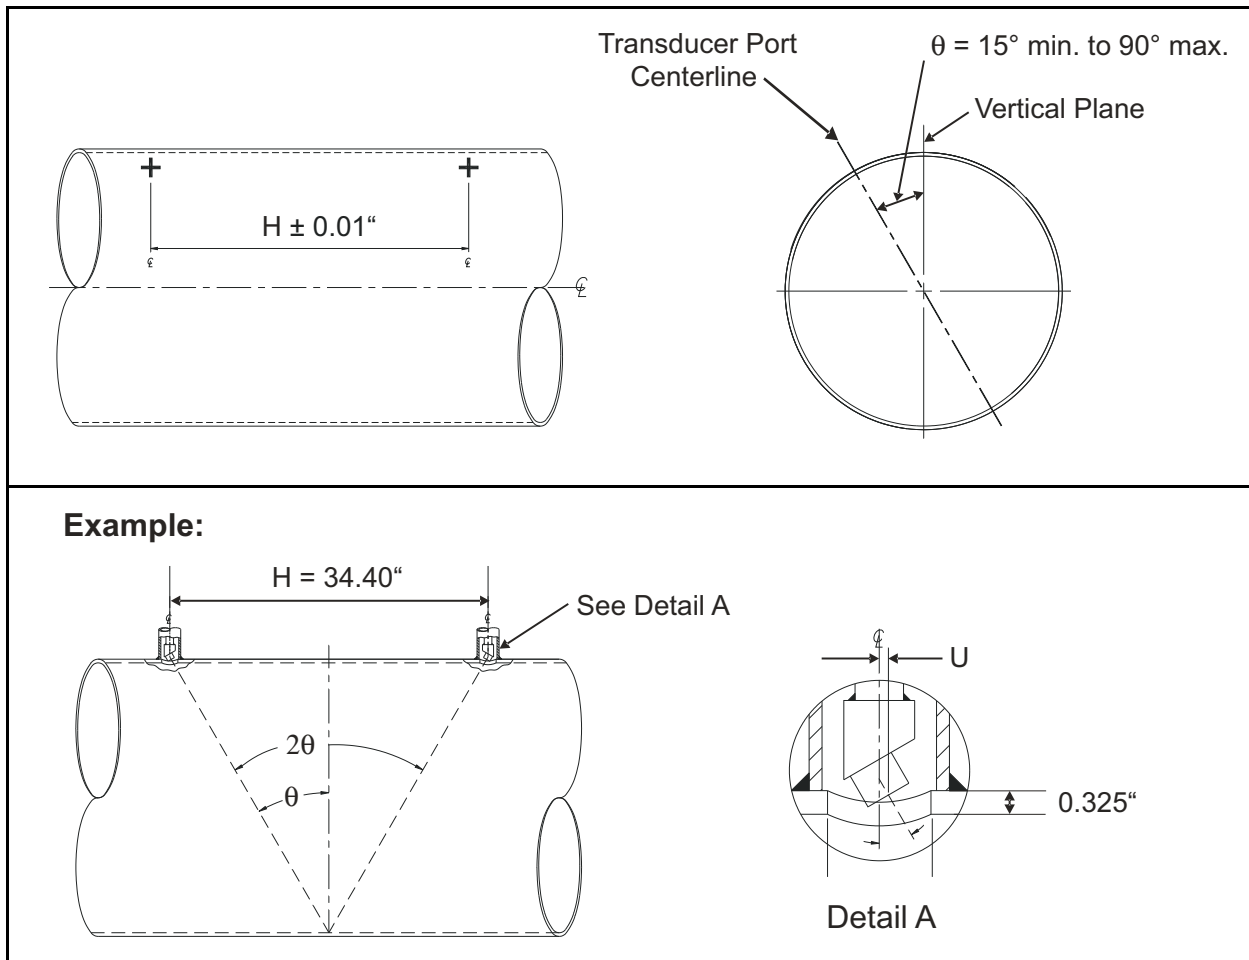

Figure 2: Locating the Transducer Ports
1. The variable **H** equals the distance between the center lines of the transducer ports (see *Figure 2 on page 3*). To calculate the distance **H**, use the following equation:
- Using the calculated H value, mark two crosshairs on the pipe where you intend to weld the transducer ports, so that the distance between the two marks equals the H value (see *Figure 2* below).